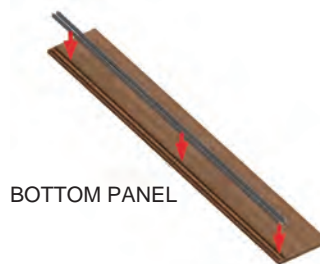

Figure 3
1. Place the track assembly into the slots on the bottom panel. Repeat this step for the top panel, as guided in Figure 3.